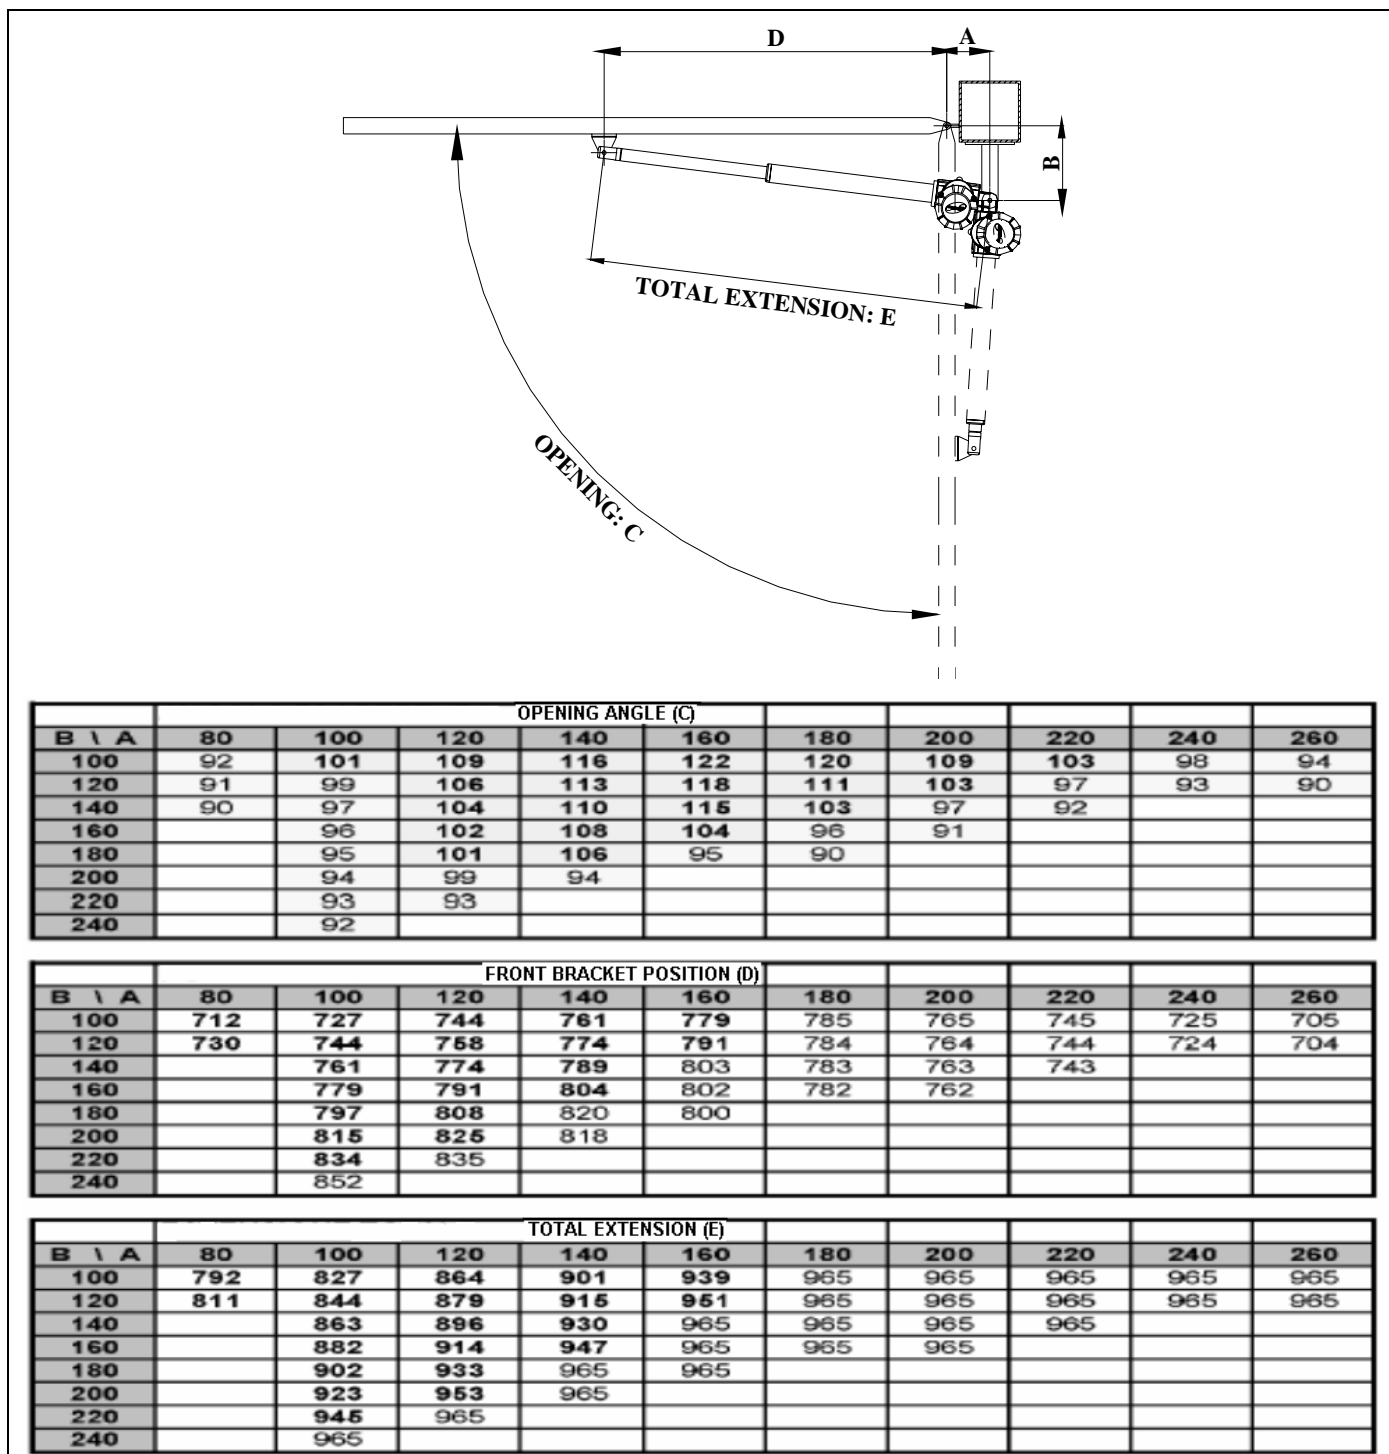

Figure 1
- Prepare for fixing the gear motor to the gate as illustrated in figure 1.